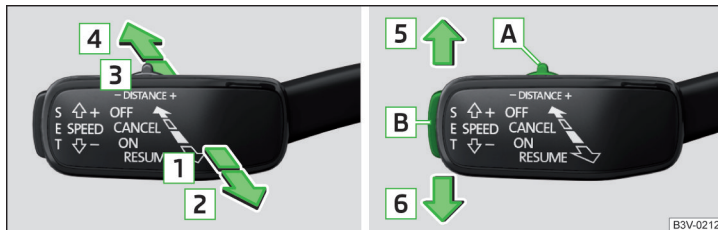

Fig. 285 Operating lever
Overview of ACC functions operated with the lever » Fig. 285
- Press the button **SET** » Fig. 285 on page 237 .
- **or:** Set the lever into the sprung position **RESUME** » Fig. 285 on page 237 .
- Set the lever into the sprung position **CANCEL** » Fig. 285 on page 237 .
The desired speed can be set or changed using the control lever » Fig. 285 on page 237.
» Set the switch **DISTANCE** Adjust in the spring-tensioned position – or + » Fig. 285 on page 237.
Acceleration can be cancelled at any time by touch on the brake pedal or pressing the button **CANCEL** on the lever » Fig. 285 on page 237.